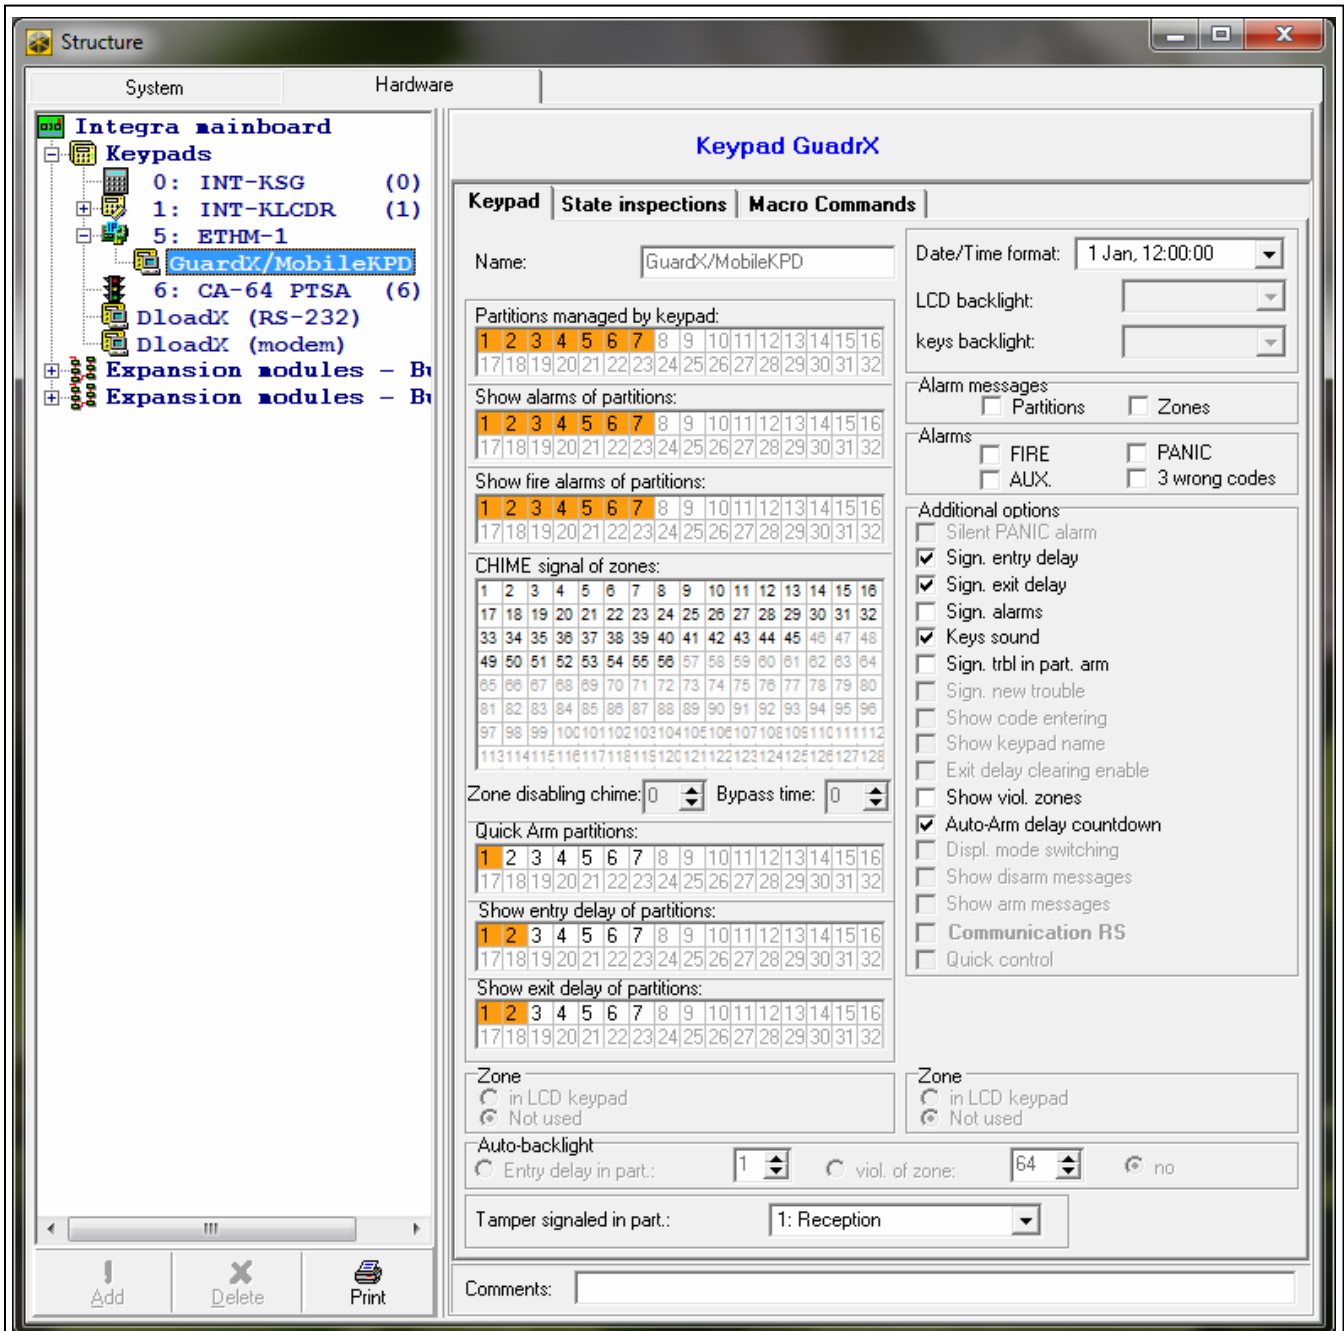

Fig. 6. DLOADX program: settings of the virtual keypad available in the GUARDX program, web browser or mobile phone.
- DLOADX program: by clicking on the "GuardX/MobileKPD" item (→ "Structure" window → "Hardware" tab → "Keypads" item → "GuardX/MobileKPD" item – see Fig. 6).